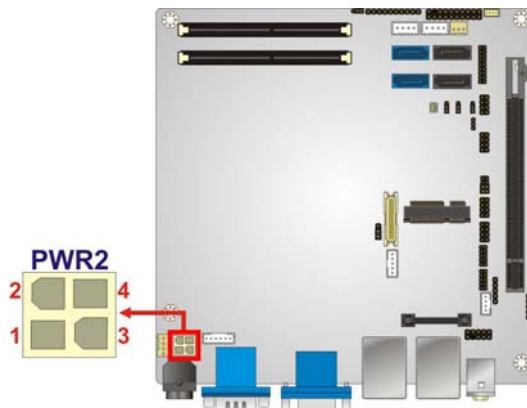

Figure 3-14: CPU 12V Power Connector Location
- CN Location:** See **Figure 3-14**